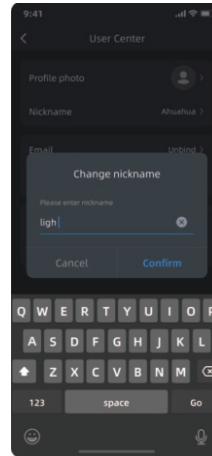

Figure 3
3) Figure 3: Fill in the nickname in the input box and click "**Confirm**" to complete the modification.